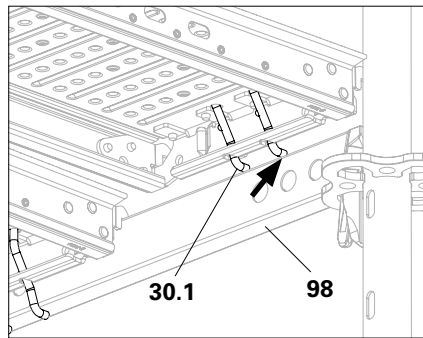

Fig. A4.04
3. Set the deck with the lift lock (30.1) down on Horizontal Ledger UH-2 (98). (Fig. A4.04)